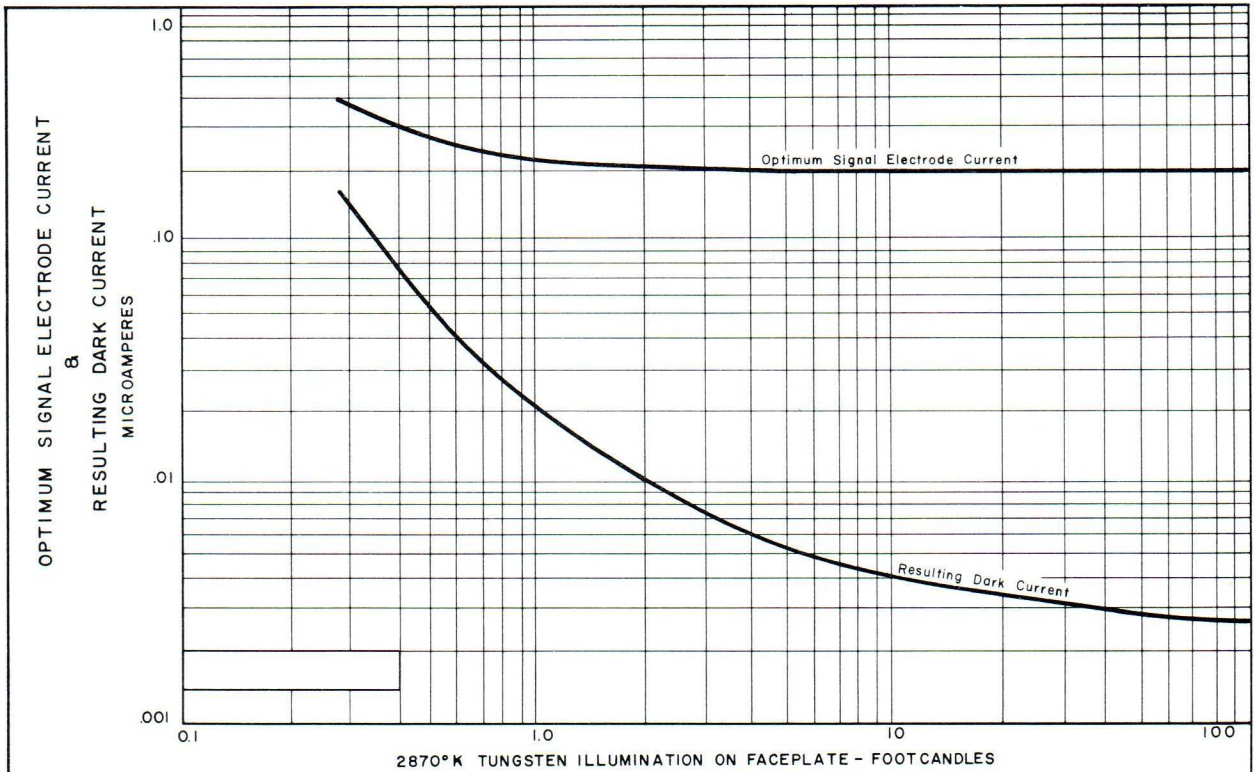

FIG. 6 OPTIMUM SIGNAL ELECTRODE CURRENT
*Optimum Signal Output Current (See Figure 6)
Sensitivity is a function of the characteristics of the photoconductive coating and the signal electrode voltage. The 8484 Vidicon has a high inherent sensitivity due to the unique quality of its photoconductive coating. Due to the exceptional uniformity of the coating, the 8484 may be operated at higher levels of dark current with resultant higher sensitivity (see Figure 6 for optimum operating conditions).